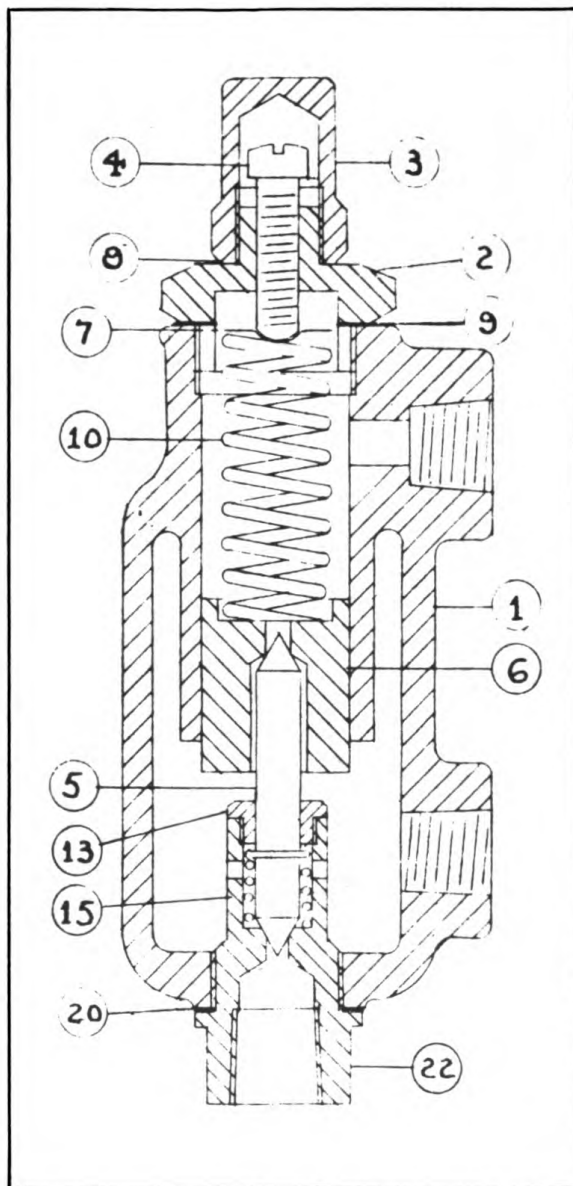

FIGURE 24M
5. Remove cap, #3, Figure 24M.
Clean all parts carefully and reassemble, using Figure 24M as a guide.